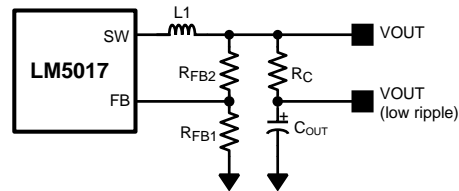

Figure 14. Low Ripple Output Configuration
This regulator regulates the output voltage based on ripple voltage at the feedback input, requiring a minimum amount of ESR for the output capacitor (C_{OUT}). A minimum of 25 mV of ripple voltage at the feedback pin (FB) is required for the LM5017. In cases where the capacitor ESR is too small, additional series resistance may be required (R_C in Figure 14).
For applications where lower output voltage ripple is required the output can be taken directly from a low ESR output capacitor, as shown in Figure 14. However, R_C slightly degrades the load regulation.